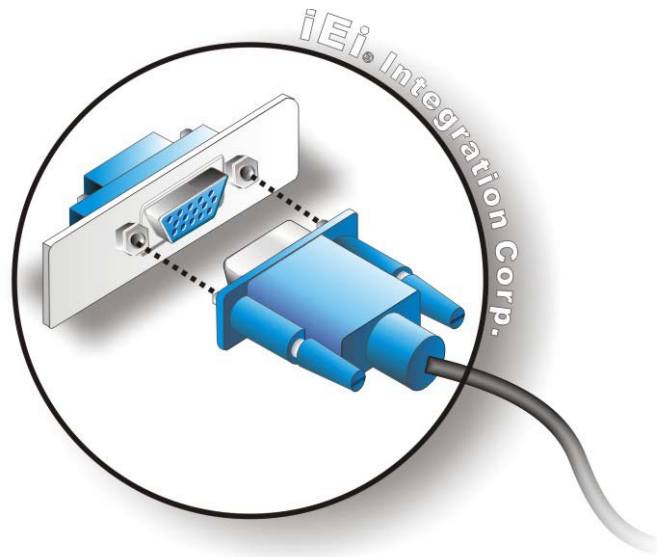

Figure 3-25: VGA Connector
- Step 3:** **Insert the VGA connector** Once the connectors are properly aligned with, insert the male connector from the VGA screen into the female connector on the TANK-820-H61. See **Figure 3-25**.